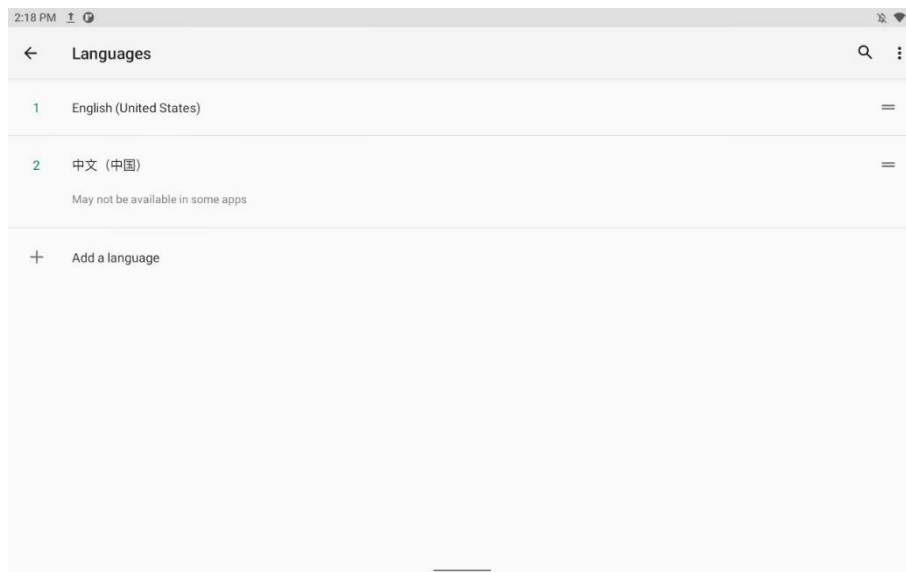

Fig. 22 Language setting screen
- 4) Click Languages&input, then click Languages, click + Add a language, add the language you want to set, as in Fig. 22;